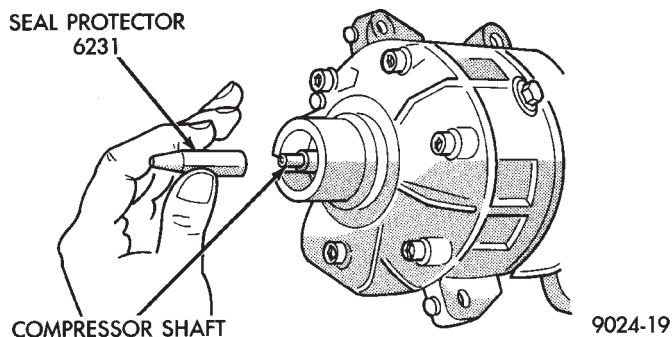

Fig. 4 Shaft Seal Protector
- (1) Lubricate the new shaft seal with refrigerant oil.
- (2) Place Seal Protector (6231) over the end of compressor shaft (Fig. 4). Use the larger flat end of the remover/installer to push the seal in until it seats. The snap ring groove should be visible above the seal (Fig. 5).
- (3) Install clutch/coil assembly.
- (4) Install compressor.